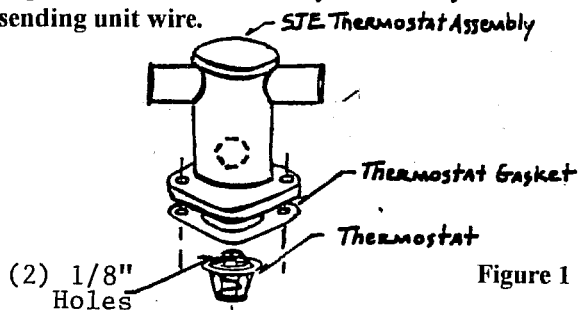

Figure 1
6. (See By-Pass Hook Up). Remove the 1/2" pipe plug from the intake manifold. This is located slightly in front and to the left of the thermostat, next to left valve cover. We recommend using pipe thread sealant when installing threaded fittings. Thread 1/2" NPT X 5/8" hose fitting into intake manifold. Connect 5/8" X 8" hose and (2) #10 clamps to fitting then connect other end to 1/2" NPT X 5/8" fitting screwed into tee. Screw large probe (two wire sending unit) into 3/8" NPT opening using caution not to over tighten. Screw 1/2" NPT X 5/8" hose into tee and connect 5/8" X 7-1/2" hose and (2) #10 clamps to fitting and then connect other end to lower opening of water pump with 1/2" NPT and 5/8" fitting and clamp. This is your fresh water by-pass and can also be used for a heater. For a heater plumb the bottom of the heater to the by-pass outlet next to the thermostat assembly, the top of the heater to the outlet at the water pump. Connect sending unit wire.
7. Retrieve from your SJE kit the new thermostat housing assembly (Figure 1). Thread small probe, single wire temperature sending unit, into the threaded hole on thermostat housing. Tighten sender firmly use caution not to over tighten. Clean thermostat housing gasket surface on the intake manifold. Insert original thermostat, spring end down (Figure 1). Position new gasket, supplied in your SJE kit between thermostat and thermostat housing. Secure thermostat housing with the (2) 3/8" X 7/8" bolts and lock washers. Tighten the two bolts firmly and evenly. Connect sending unit wire.